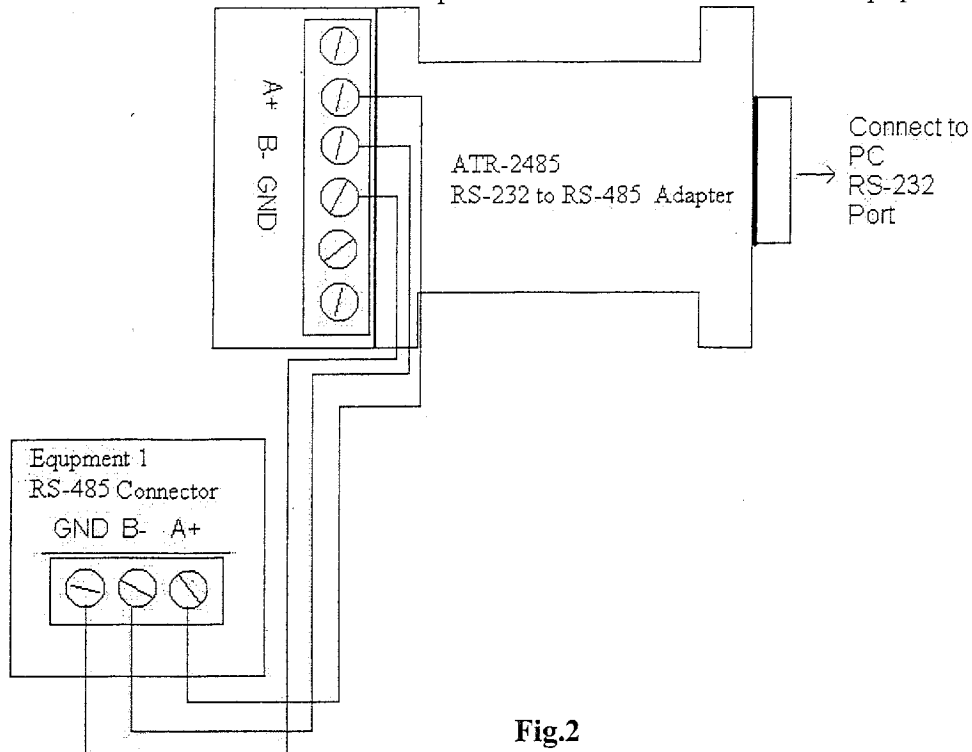

Fig.2
- (1) Connect the RS-232 side of the adapter to the PC Communication port.
- (2) Connect the RS-485 side of the adapter to RS-485 connector of the equipment 1 as Fig.2.